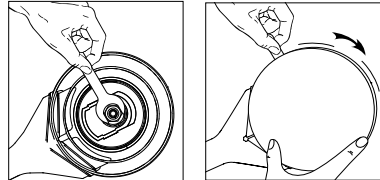

figure 4
2. To remove the Disc Pad, insert the flat wrench between the Disc Pad and shroud. Secure the Spindle with the flat wrench and unscrew the Disc pad. - see figure 4.